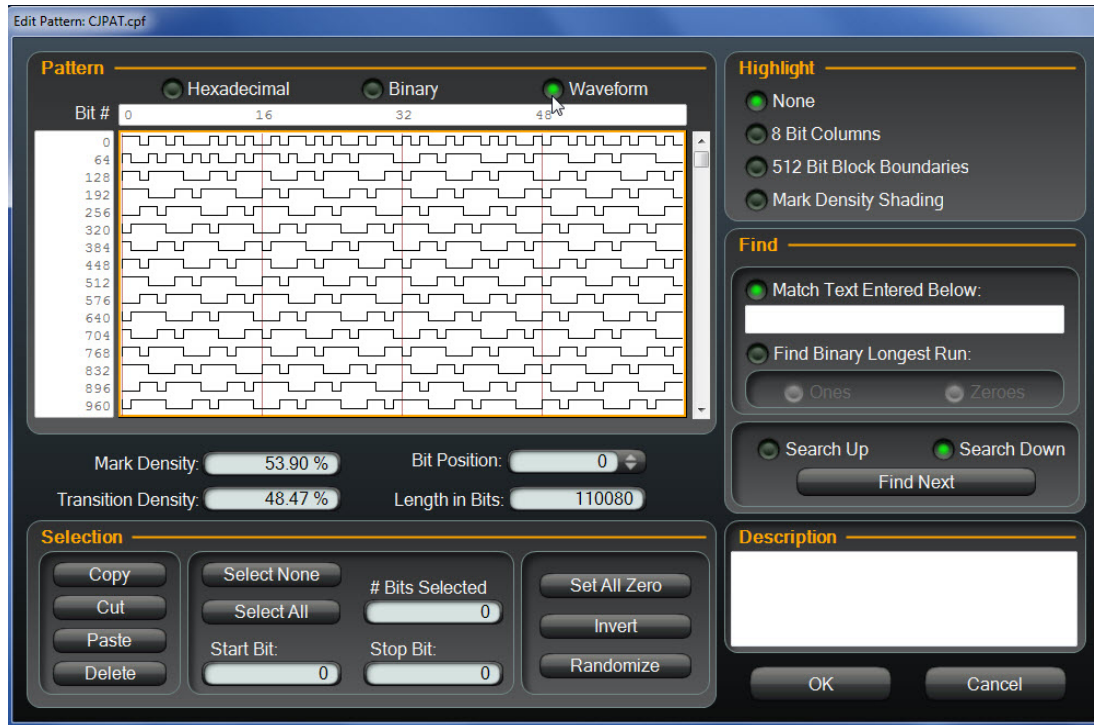

Figure 83. Waveform view
3. To view the pattern as a waveform, select **Waveform** as shown in Figure 83.